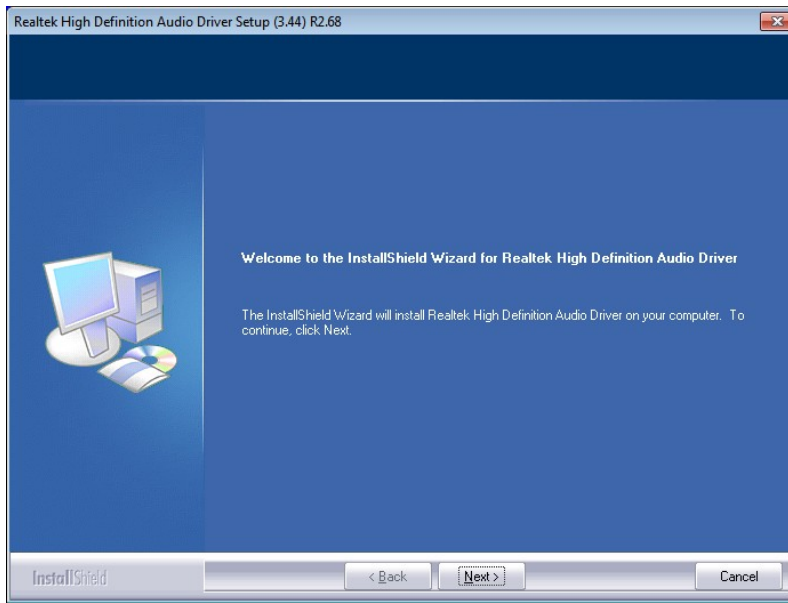

Figure 6-14: Audio Driver Welcome Screen
Step 5: Once initialized, the **InstallShield Wizard** welcome screen appears (**Figure 6-14**).